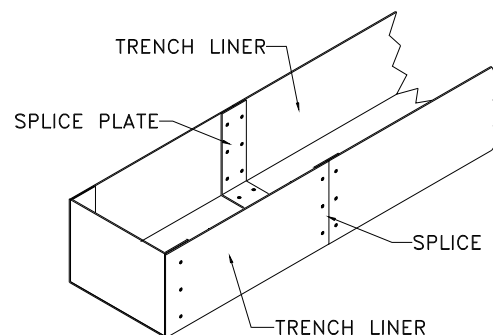

Figure 13
STEP 8. Spot weld or rivet the free end of the splice plate to the mating section of the trench liner, ensuring that the mating sections of the trench liner remain as tightly abutted together as possible (see Figure 13).